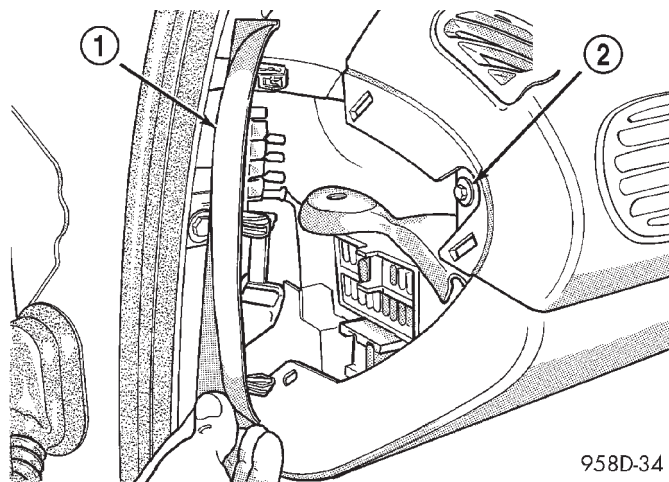

Fig. 6 Instrument Panel Top Cover Attaching Screw
(3) Before beginning removal of steering column assembly from vehicle, be sure front wheels of vehicle are in the STRAIGHT AHEAD position.
(4) Remove fuse panel cover from left end of instrument panel (Fig. 6). Then remove the screw behind fuse panel cover, attaching the instrument panel top cover (Fig. 6).